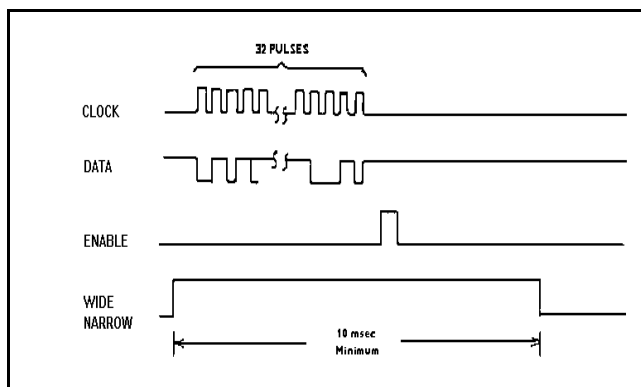

Figure 6 - Clock, Data, Enable, And Wide/Narrow Signals
- g. Verify that the CLOCK, DATA, ENABLE and WIDE/NARROW signals coming from the Control Board are at the proper level and the proper duration (refer to Figure 6).